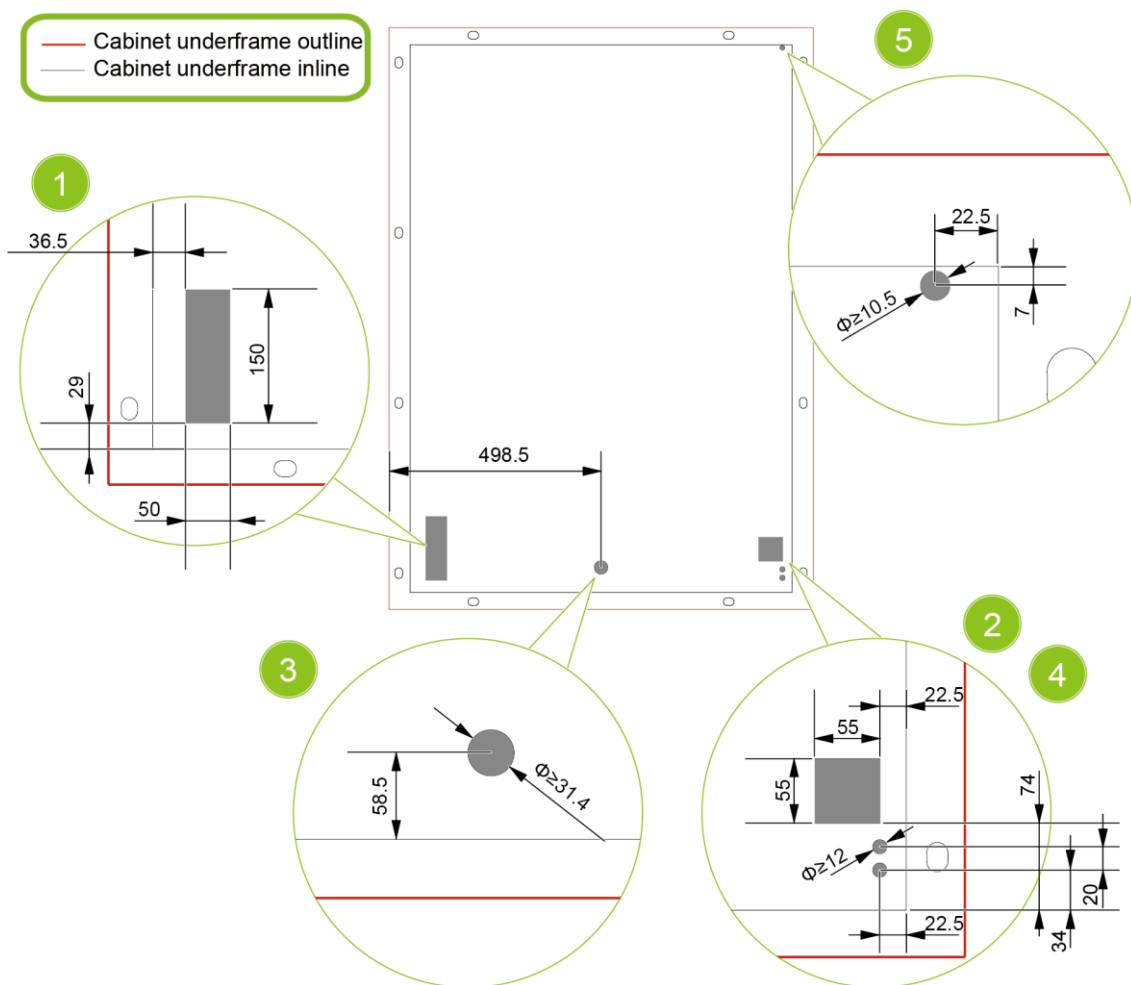

Fig. 4-7 Prepare cable holes and drain holes
- When constructing the foundation, make sure to leave drainage holes. The position of the equipment drainage holes can be referred to Fig. 4-7 Prepare cable holes and drain holes.